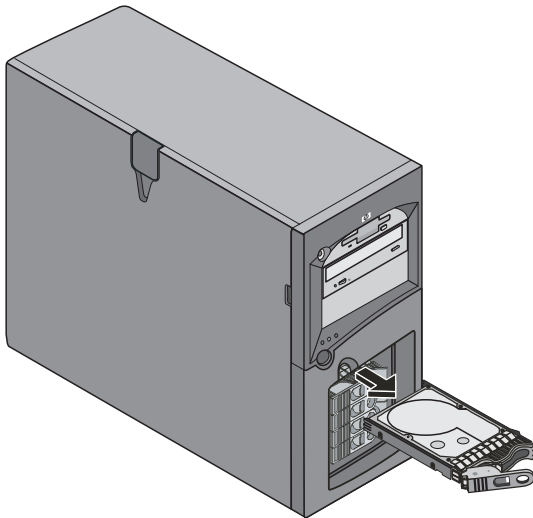

Figure 2-10: Removing hot swap hard drive
5. Use your hand to support the bottom of the drive, while you slowly pull the drive straight out. Do not allow the drive to fall. Refer to Figure 2-10.